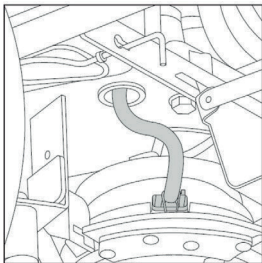

FIG.27B
3. RETIRE EL EMBRAGUE ELECTROMAGNÉTICO DEL CIGÜEÑAL DEL MOTOR Y RETIRE EL CABLE (C, FIG.27B). (FIG.27B & FI-G.27C)
7. RETIRE A POLIA MOTRIZ (G, FIG.27B) DO VIRABREQUIM DO MOTOR.